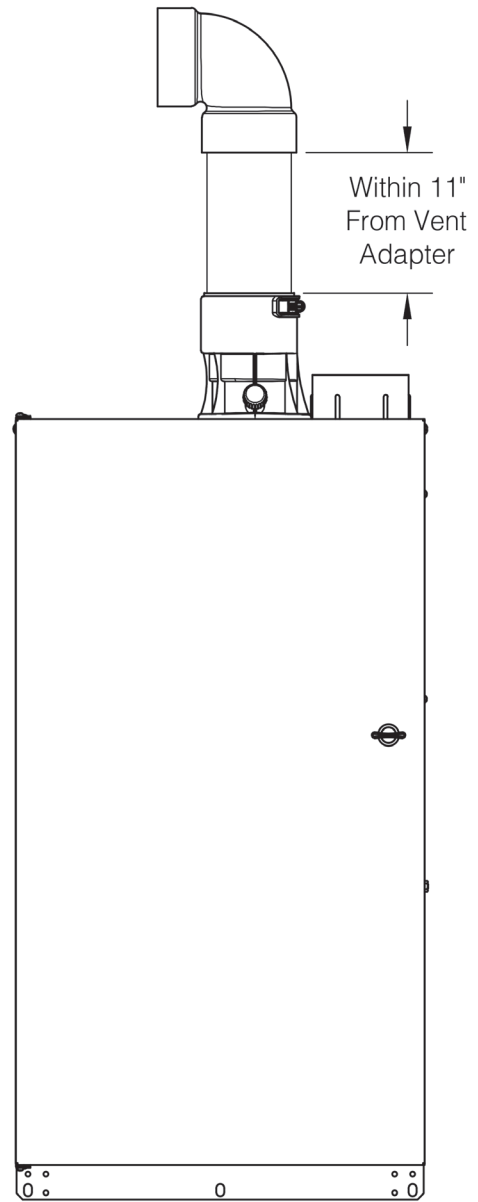

Figure 4
- A. If no elbow is present on exhaust side venting, or if first elbow on exhaust side venting is further than 11” from the boiler vent connector, add/move elbow to within 11” of boiler vent connector (see Figure 4). Attach per manufacturer’s installation and cementing/locking instructions.